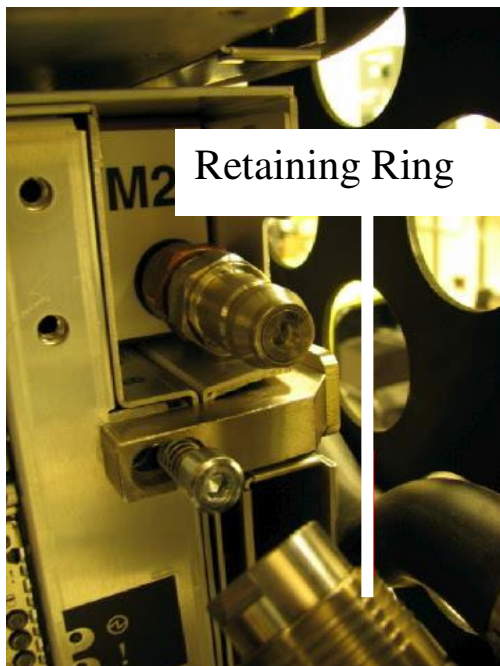

Figure 26 Water Hose Connector
STEP 28 Disconnect the 2 Water Hoses from the rear of the Disk Enclosure by pulling the retaining ring on the hose (see Figure 26 Water Hose Connector).